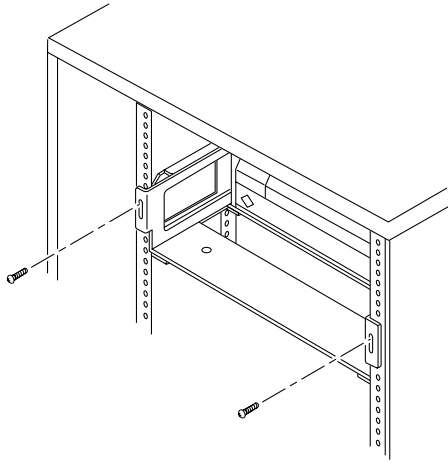

FIGURE 4-7 Installing Screws to Secure the Baseplate to the Side Brackets
4. Tighten the screws in the front of the cabinet (FIGURE 4-7).